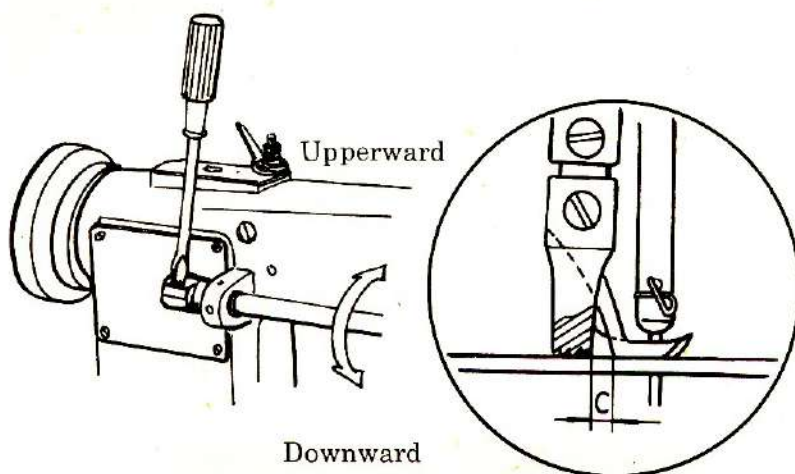

Fig.32
8. adjusting the horizontal clearnce between the synchronous presser foot and the small presser foot(fig.32)
Refer of fig.32 for adjusting the clearance. At first, loosen the synchronizer crank screw, then turn the synchronizer shaft upwards in order to shift the synchronious presser foot towards the needle bar, while keeping the clearance(C) constant.